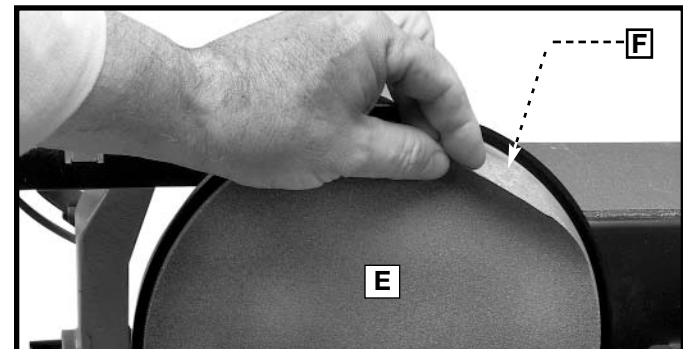

Fig. 43
3. Peel off the old disc (E) Fig. 43.
4. Make sure the disc plate (F) Fig. 43 is clean. Peel the backing from a new sanding disc. Press the new sanding disc firmly into position on the disc plate (F). Replace the lower cover and table assembly, removed in **STEPS 1** and **2**.